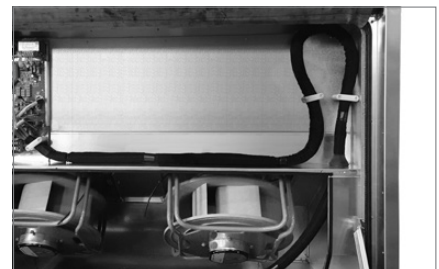

Fig. 36: Fixing the wiring harness in the roof unit
- Depending on the length of the connection module, the wiring harness has a little excess length. Fix it with the cable clamps in the roof unit (see Fig. 36).